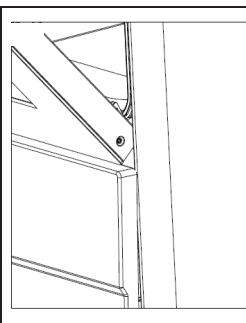
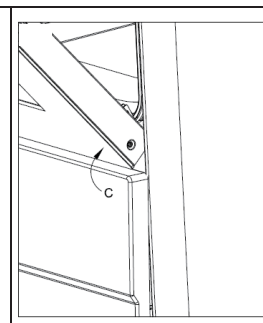

Fig.3
Fig.4
- Hold the door as shown in (fig.3).
- Gently close the door (fig.3) until left and right hinge levers A are hooked to part B of the door (fig.4).
- Withdraw the hinge hooks from their location following arrow C (fig.4).